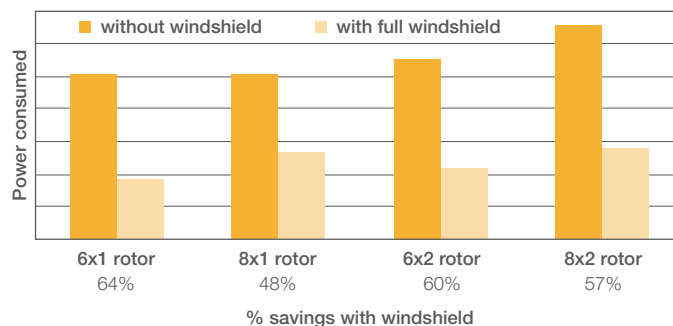

Figure 2. Power consumption of Thermo Scientific windshielded rotors as compared with non-windshielded designs of the same rotor body.
- Thermo Scientific™ Eco-Spin™ Windshielded Rotors provide energy savings up to 64% when compared with non-windshielded rotors* (see Figure 2)